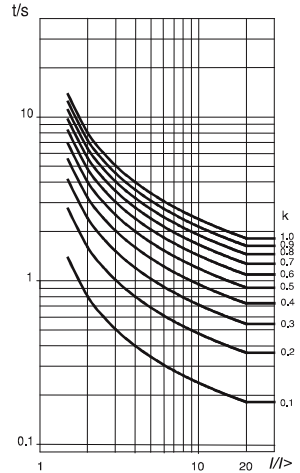

Figure 1: IDT Inverse
- The delay timing adjustment is for selecting different delay curve as shown in figure 1.